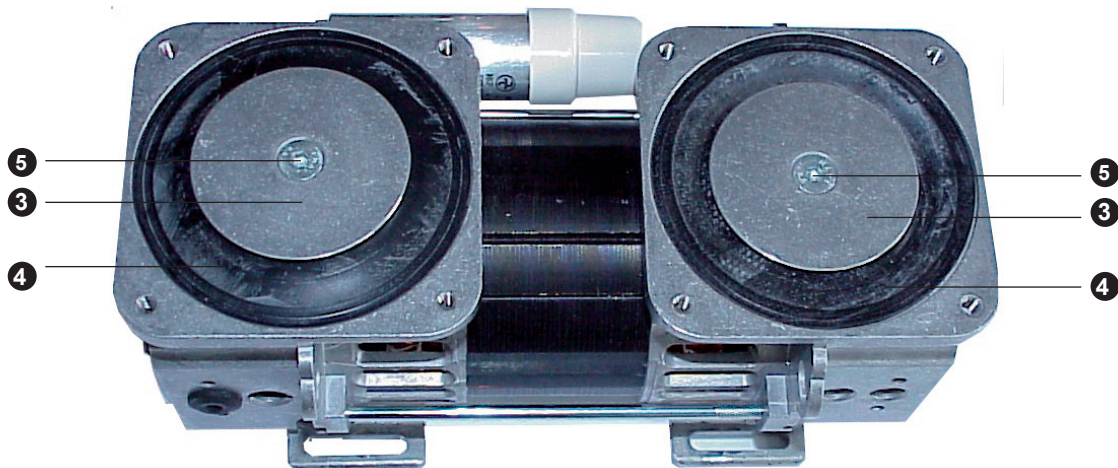

Fig. 10. Pump without pump head
Clean the diaphragm disk (3); check whether the diaphragm (4) has fractures, if necessary renew it. For this, remove the socket headed screw 5. Remember when assembling that the membrane is assembled in the lower dead point (Figure 10, Page 15).